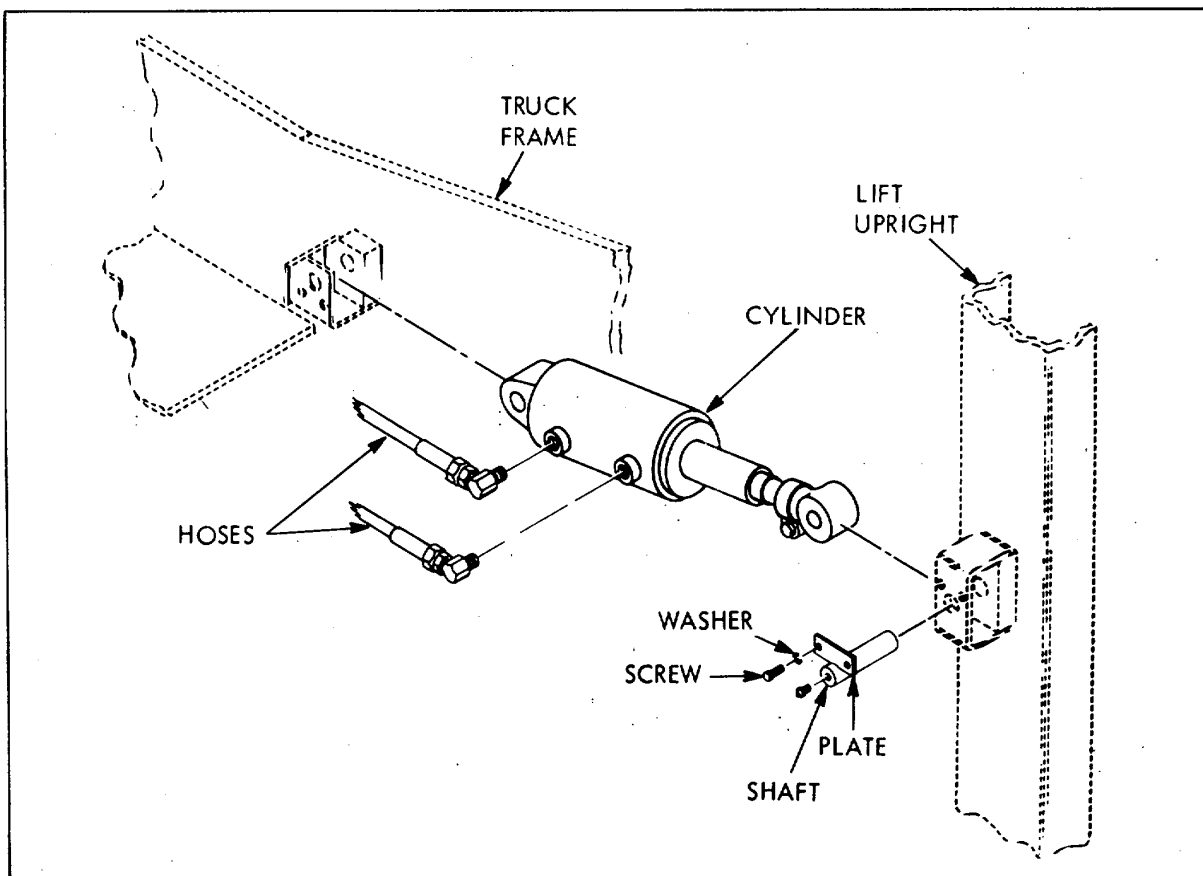

Figure 6-17. Tilt Cylinder Removal
(1) Remove truck floor plate.
(2) Tag and disconnect hoses (figure 6-17) from tilt cylinders. Cap hoses and plug ports in cylinders to exclude dirt.
(3) Support mast so it will not suddenly tilt on removal of tilt cylinders.
(1) Position tilt cylinder (back end) in U shaped bracket on truck frame (figure 6-17).
(2) Aline bracket holes and cylinder end hole. Insert shaft through bracket and cylinder end hole. Secure shaft with screws.
(3) Remove plugs from ports and caps from hoses and connect hydraulic hoses to cylinders.
(4) Check oil level in reservoir.
(5) After installation, operate tilt control lever several times to purge air from cylinders. Check cylinders and hose fittings for leakage while operating.
(6) Retract both tilt pistons fully. With mast tilted 10 deg. to rear of vertical and pistons retracted fully, repeat step (2) above. Secure front end of tilt cylinders to upright brackets with shafts and attaching screws.